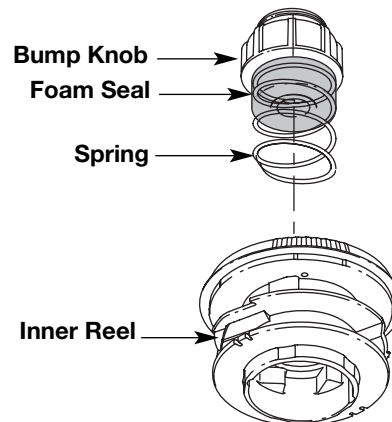

Fig. 18
1. Turn the bump knob counterclockwise and remove the bump knob, spring and foam seal (Fig. 18).
2. Pull out the bump knob, spring and foam seal (Fig. 18).
7. Place the bump knob, spring and foam seal into the inner reel (Fig. 18).